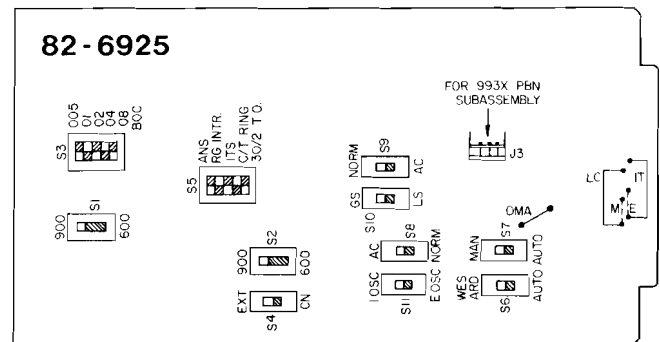

figure 3. Option switch locations
3.05 All frequently used options on the 6925 are selected via slide switches or DIP switches located on the module's printed circuit board as shown in figure 3. A small number of less frequently used options are implemented by means of wire straps, which are also shown in figure 3. Tables 4 and 5 list all switch options and strap options, respectively, and indicate the option choices, which are explained below. In addition, tables 6, 7, and 8 summarize the specific switch settings required
3.13 The 6925 contains five strap options, two of which are related to outgoing traffic monitoring, one to incoming traffic monitoring, and two to signaling. These strap options are summarized in table 5 and shown in figure 3. Because certain metering and signaling strap options involve use of the same module connector pins, a choice must be made as to which, if any, of these mutually exclusive options is to be used. Details are provided below.
3.16 The two remaining strap options, straps *M* and *E*, are related to signaling. Strap *M*, when installed, conditions the module so that local manual application of ground to the M/dc-ringdown-input lead (pin 19) initiates outgoing dc ringdown. Strap *E*, when installed, conditions the module to provide ground output on the E lead (pin 21) during local (incoming) ringing only. Unless specific instructions are given to the contrary, Tellabs ships all 6925's with straps *M* and *E* **not installed**. If outgoing dc manual ringdown operation is desired, cut or remove strap *LC* on the module's printed circuit board, install strap *M* where indicated (see figure 3), and connect the external M/dc-ringdown-input lead to pin 19. For all other ringdown modes, **do not install** strap *M*; also, leave strap *LC* in place if outgoing usage metering is desired (see paragraph 3.14). If an external indication (e.g., lighting of an indicator lamp) during incoming ringing is desired, cut or remove strap *IT* on the module's printed circuit board, install strap *E* where indicated (see figure 3), and connect the external E lead to pin 21. If, however, continuous ground output for the duration of each incoming call is desired, **do not install** strap *M*; instead, leave strap *IT* in place (see paragraph 3.15).